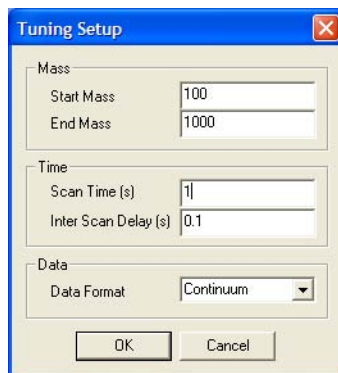

Figure D-4 Tuning Setup Dialog Box
1. Click  or select Peak Display > Setup Scope to open the Tuning Setup dialog Box (Figure D-4).
The speed with which the system responds to changes depends on the speed with which the peak display refreshes. For the fastest response, set the Tuning Setup dialog box Scan Time (s) and Inter Scan Delay (s) values to be as short as possible (see Figure D-4).